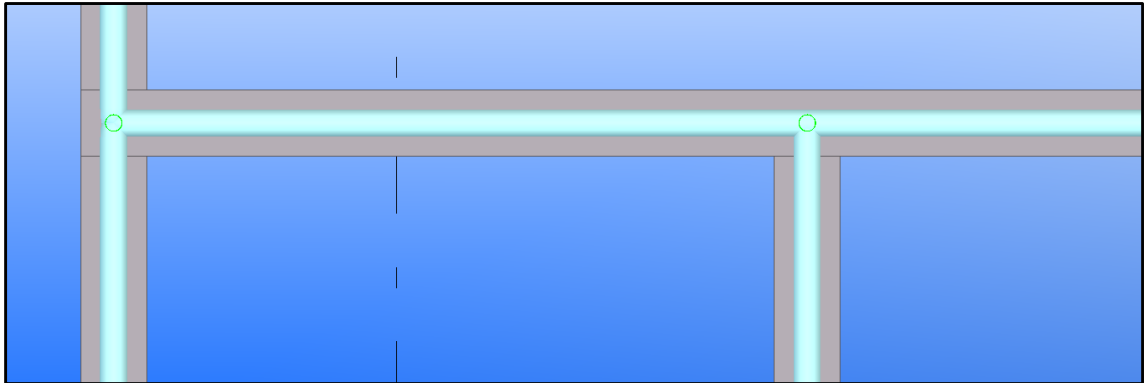

Figure 2-18
- a. The 'Connectivity' parameter for all the walls visible in the plan view in Figure 2-18 is set to 'Automatic' therefore, the objects are allowed to snap to each other to create a consistent analysis model.